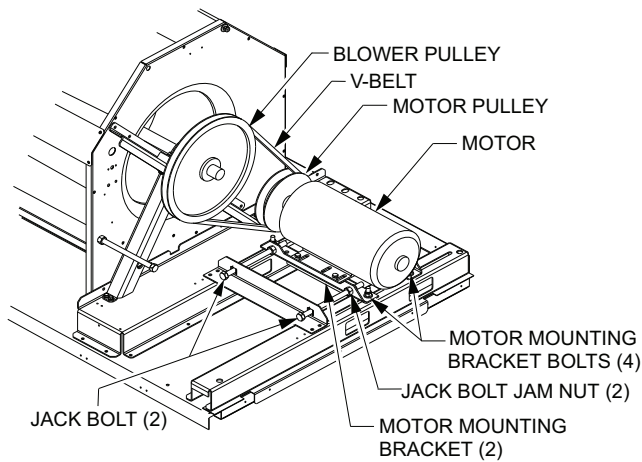

Fig. 11 — Replacing Belt Driven Motor
When replacing the motor, use the following steps. See Fig. 11.
21. Set the new motor and motor mounting bracket back onto the unit. See Fig. 11.